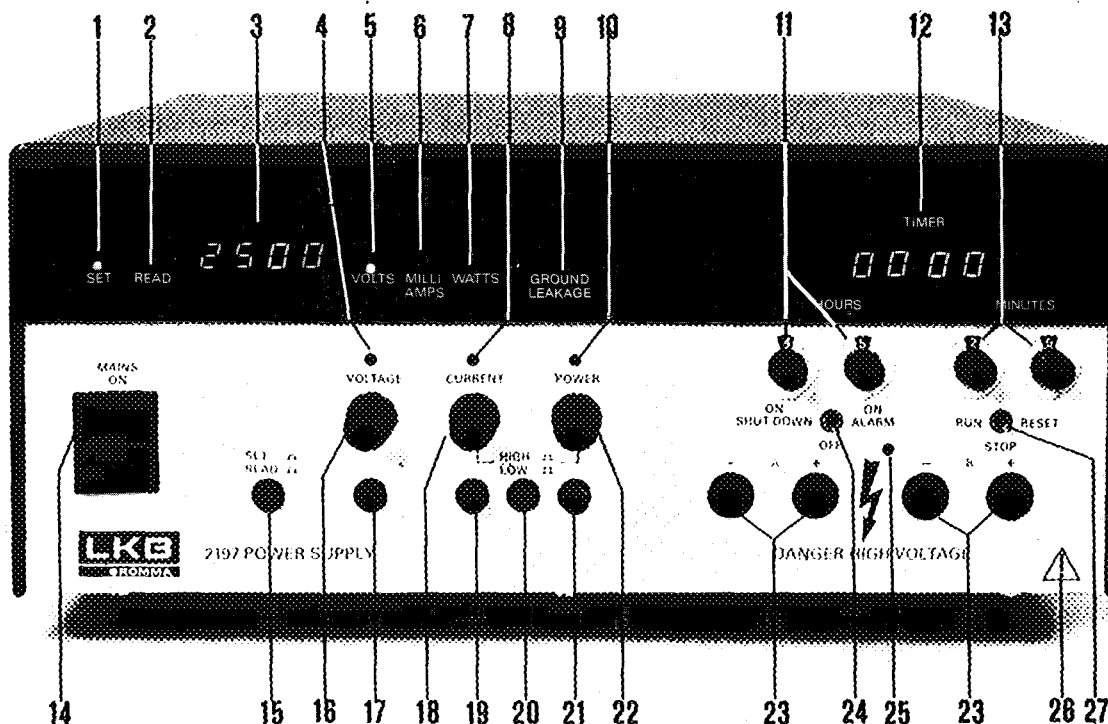
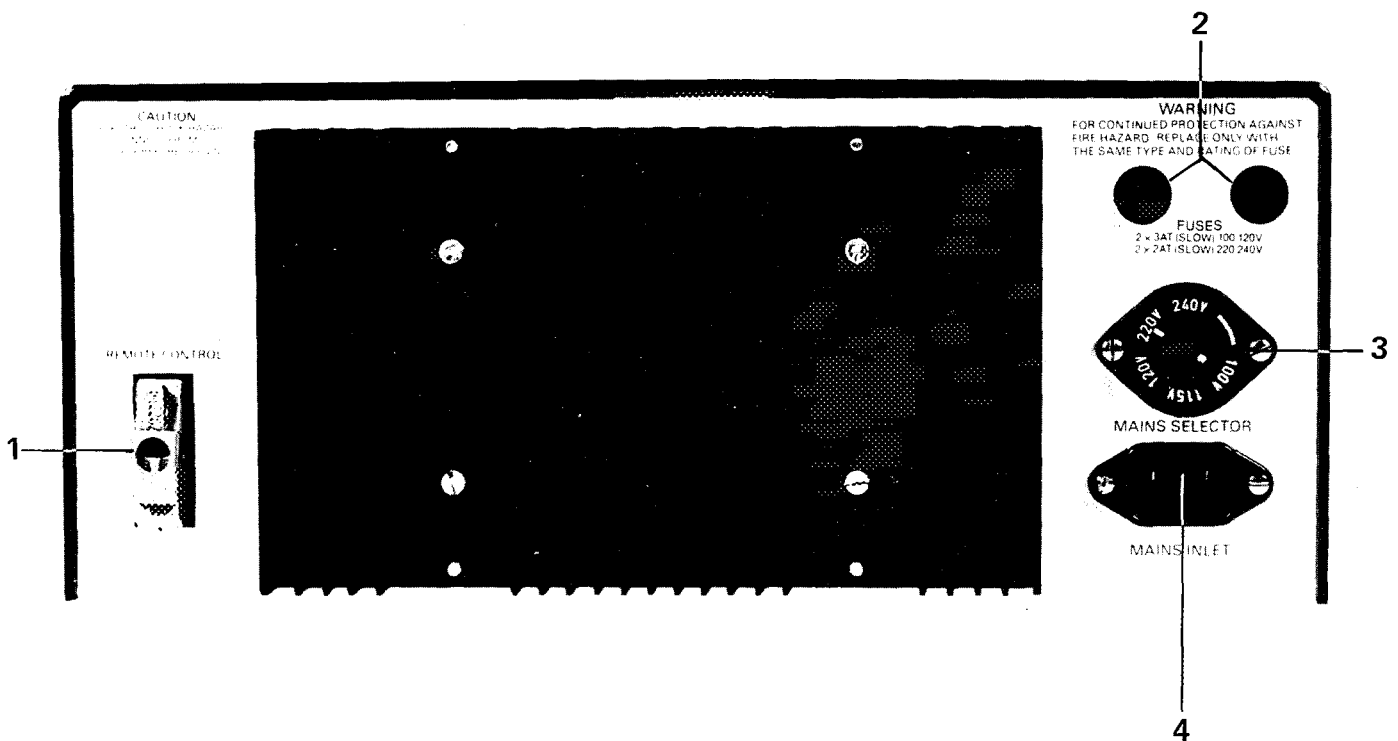

Fig. 1
Fig. 2
Please refer to Figure 1 for the front of the unit, and Figure 2 for the back.
Front Panel (Fig 1)
Back Panel (Fig 2)
1. Select the appropriate mains voltage on the MAINS SELECTOR (3 in Fig 2) on the back panel.
2. Insert the proper fuses (2 in Fig 2) on the back panel.
4. If a safety switch is needed this should be connected to the REMOTE CONTROL (1 Fig 2). See chapter REMOTE CONTROL.
5. If you are using LKB 2117 Multiphor there is no need for a safety switch: just connect the supplied interlock to the REMOTE CONTROL (1 Fig 2), otherwise the Power Supply will not work.